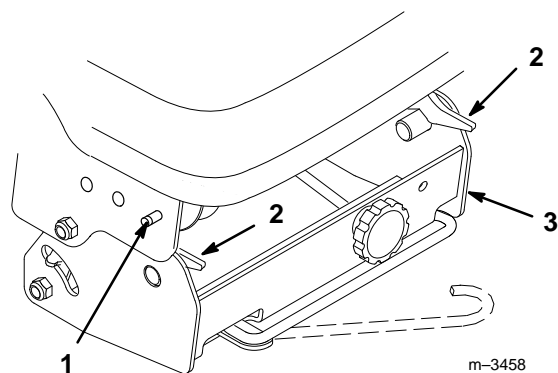

Figure 23
10. If you wish to remove the pulley box, push the latch release buttons on the front Attach-A-Matic™ (Fig. 23) and raise the latch levers to open the latches holding the pulley box. Remove the pulley box.